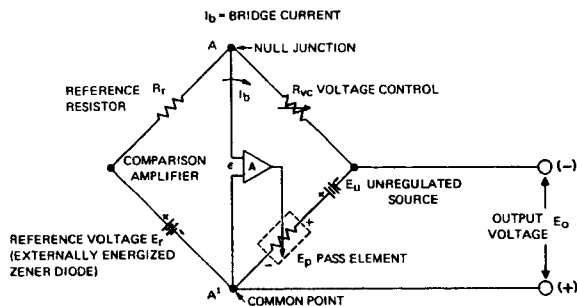

FIG. 3-3 KEPKO POWER SUPPLY AND COMPARISON BRIDGE CIRCUIT
3-8 INTRODUCTION TO REMOTE PROGRAMMING (Refer to FIG. 3-3)
3-9 A few general remarks may be in order to familiarize the user of this equipment with the terminology and basic equations pertaining to remote programming of the Kepco PCX and PCX-MAT Power Supplies. Electrically, the power supply consists of the unregulated DC source (E_U) the pass element (E_P), the DC error amplifier (A) and a comparison circuit which resembles a four-arm electrical bridge. (Refer to FIG. 3-3). The elements of the bridge are arranged to produce a virtual zero at the amplifier input when the bridge circuit is at balance ($V_{AA'}=0$). Any tendency for the output voltage to change in relation to the reference voltage (E_R) creates an error signal which, by means of negative feedback and the amplifier, tends to correct the output voltage towards restoration of bridge balance.